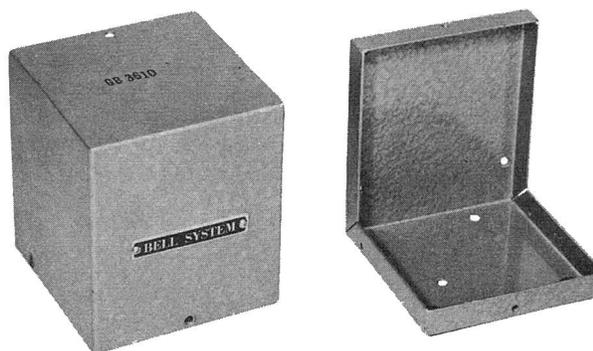

Figure 76 - GB-3610 Transformer Box
4.24 The GB-3610 transformer box is a gray sheet metal box measuring 3-1/4" by 3-1/4" by 4" high. It provides a neater and less expensive mounting for the GB-3609 transformer assembly and the KS-12048 autotransformer where not exposed to the weather. It is drilled in the back for mounting on a backboard and in the bottom for transformers. It has two grommeted holes in the bottom for wire entrance. (Figure 76)